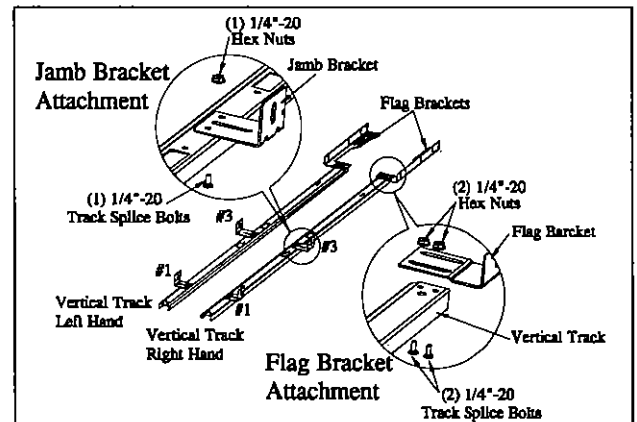

FIGURE 9
the bottom of the vertical track (Figure 9). Loosely attach with (1) 1/4" x 5/8" track splice bolt and (1) 1/4"-20 hex nut. **Note:** 1/4" hex nuts always go on the outside of the track curve, short side of bracket, and track toward the jamb. Loosely attach second jamb bracket (Number 3 or 4) toward the top of the vertical (Figure 9). Hand tighten.
Flag Bracket Attachment - Loosely attach flag brackets to the top of the vertical track with (2) 1/4" x 5/8" track splice bolts and 1/4"-20 hex nuts. **Note:** Nuts always go on the outside of the track with the flat side of flag, and track facing toward the jamb (Figure 9). Hand tighten.